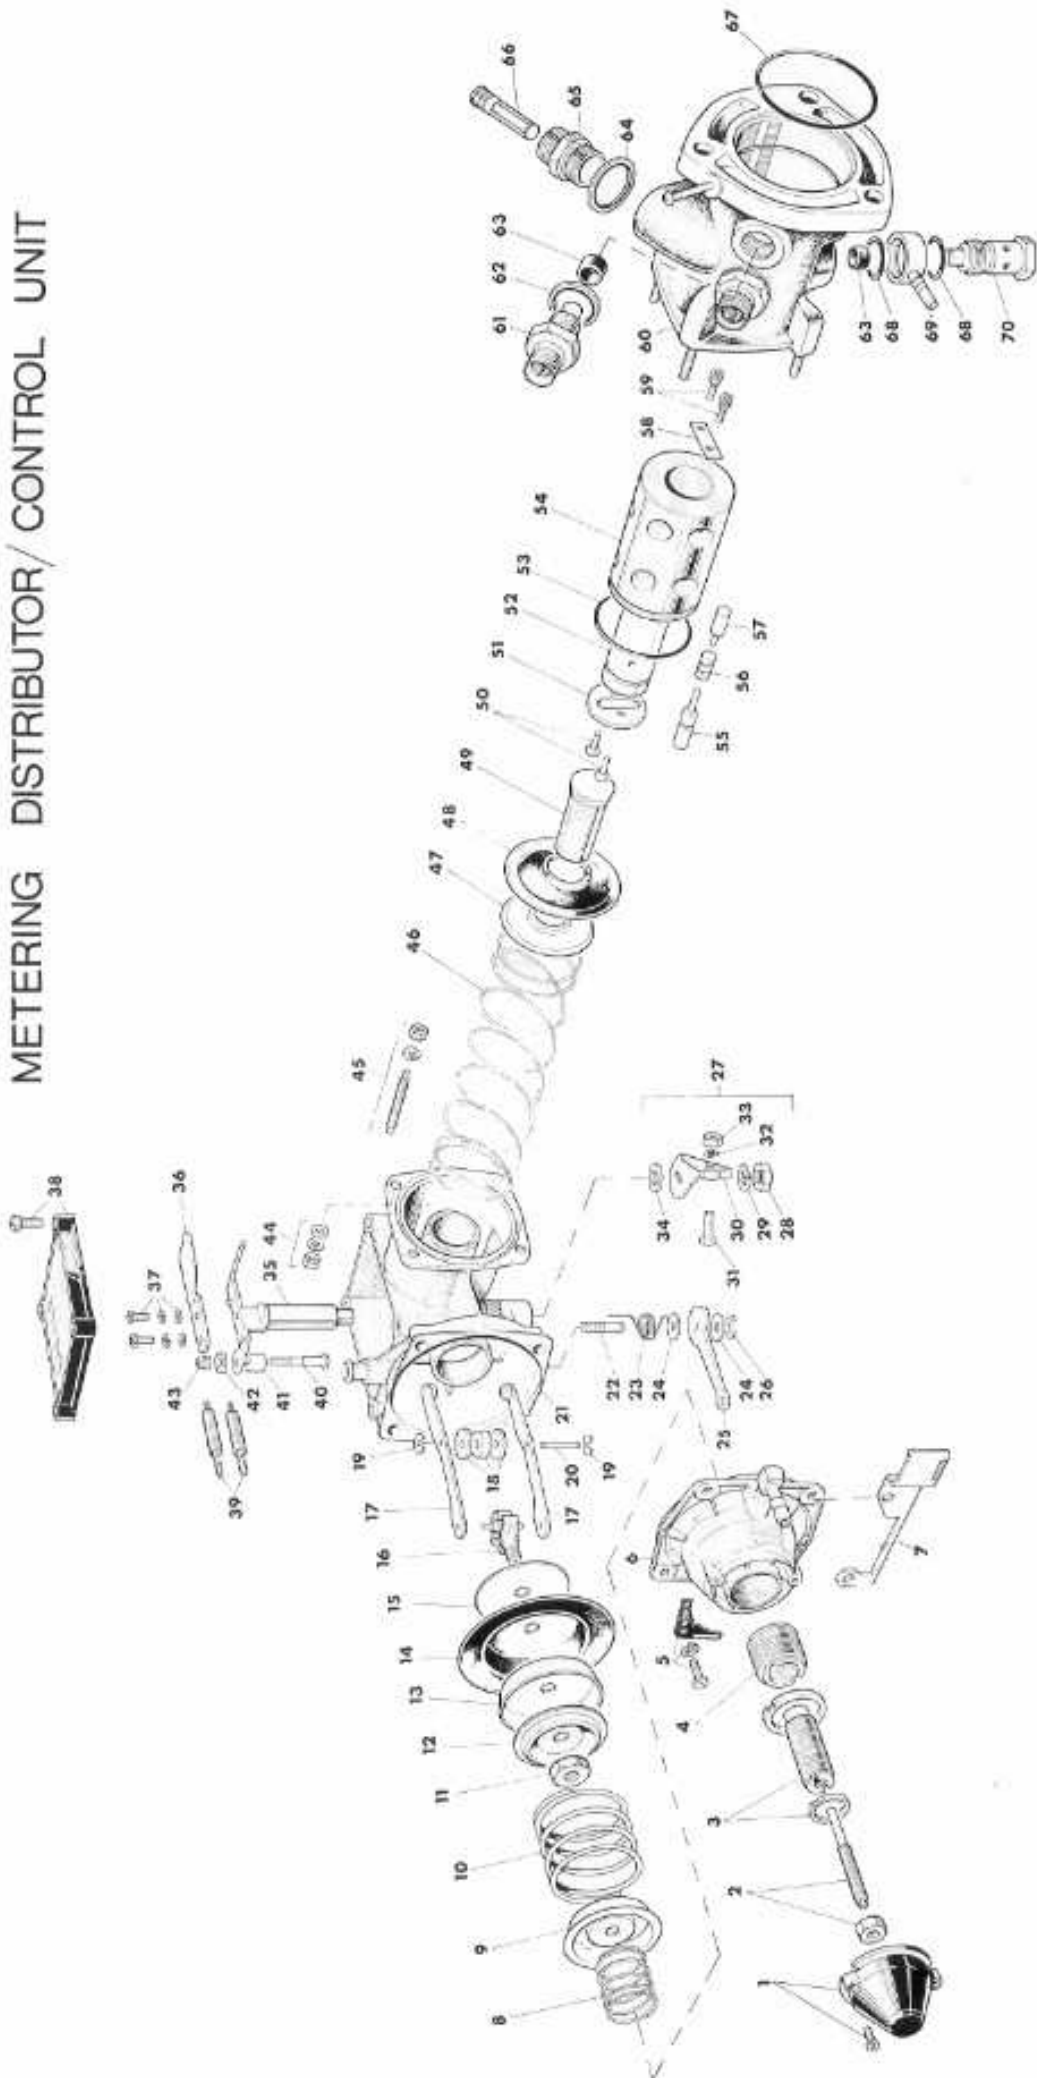

Fig. 18
KEY TO (FIGURE 18) EXPLODED ILLUSTRATION OF METERING/CONTROL UNIT
(These are shown in Figure 18 items 2, 3, 4 and 45).